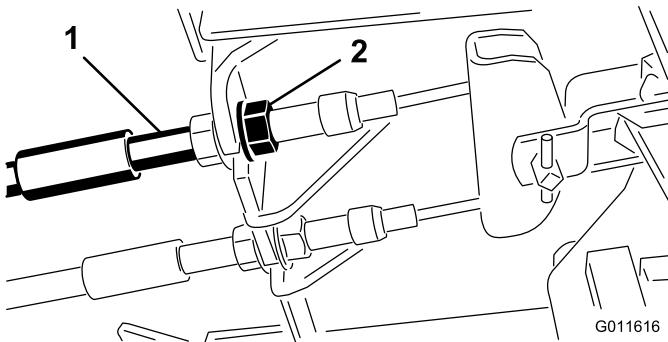

Figure 36
1. To reduce free travel of the brake pedals, tighten the brakes by loosening the front nut on the threaded end of the brake cable (Figure 36).